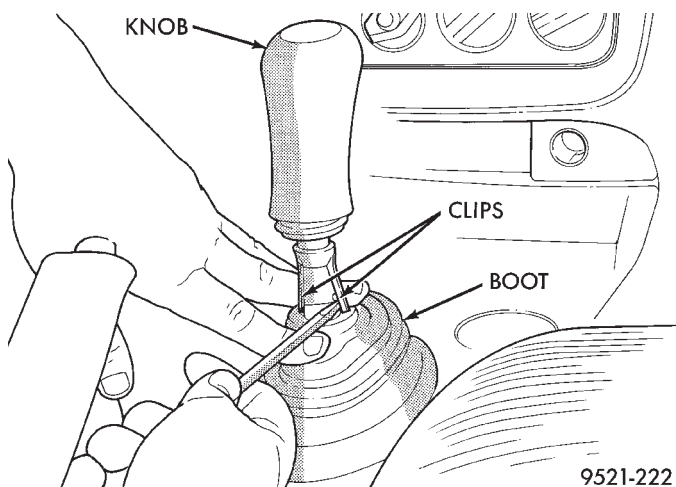

Fig. 137 Gearshift Knob
(3) If the vehicle is equipped with a manual transmission remove the gearshift knob and shifter boot using the following procedure.
- Push shifter boot down to expose clips on gearshift knob and roll pin on shifter handle (Fig. 137).
- Pry the clips on the shifter knob away from the roll pin in the shifter handle using a flat blade pry tool (Fig. 137).